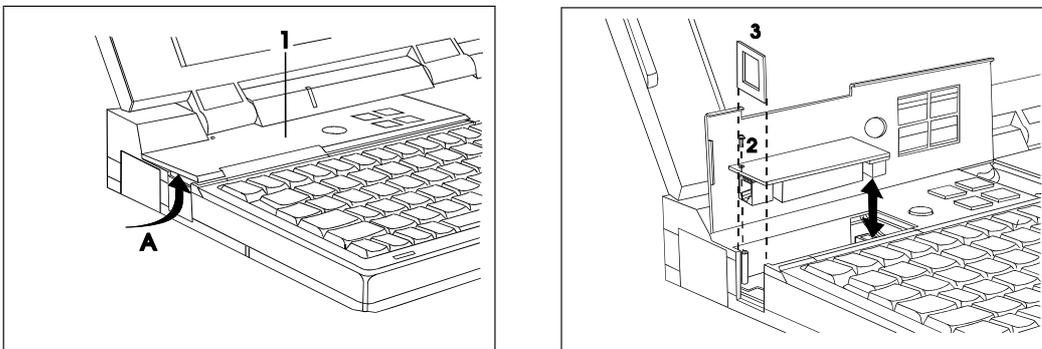

Figure 2-5. FAX/Modem Module Disassembly/Reassembly
2. Remove the controls-and-indicators panel (Figure 2-5 #1) by levering it up (Figure 2-5 Arrow A).
3. Remove the screw (Figure 2-5 #2) securing the fax/modem module to the chassis.
5. Remove the fax/modem cover (Figure 2-5 #3) by pulling it straight up.
1. Replace the fax/modem cover (Figure 2-5 #3).
2. Firmly plug the module's connector into place and secure with the screw (Figure 2-5 #2).
3. Replace the controls-and-indicators panel (Figure 2-5 #1).